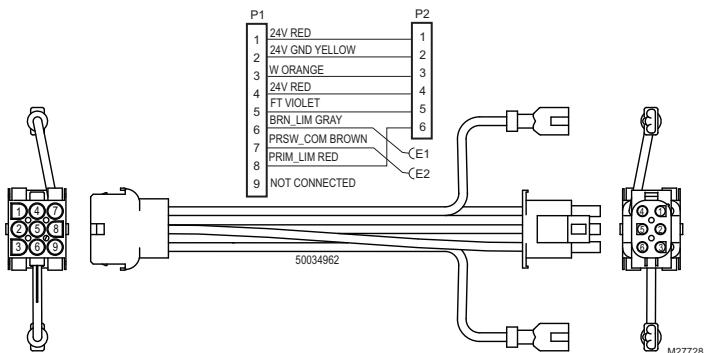

Fig. 8. ST9141 wire harness adapter 50034962 schematic.
- Unplug the 9-pin connector and plug existing wiring harness directly into the 9-pin connector found on the ST9141 wiring adapter 50034962. See Fig. 8 and Table 5 for further wire harness adapter description.